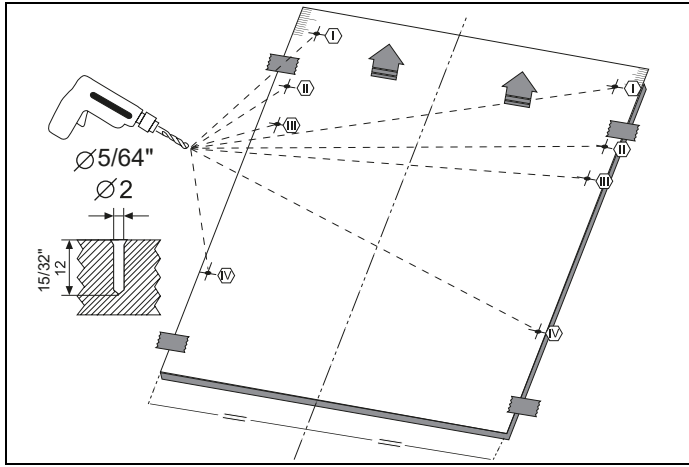

Fig. 24
- 3) As shown in Fig. 24 , the screw hole is opened to the outer door from the points marked on the installation plan. Diameter of Drill Bit: 5/64" (2 mm) Depth of Drill Bit: 15/32" (12 mm)